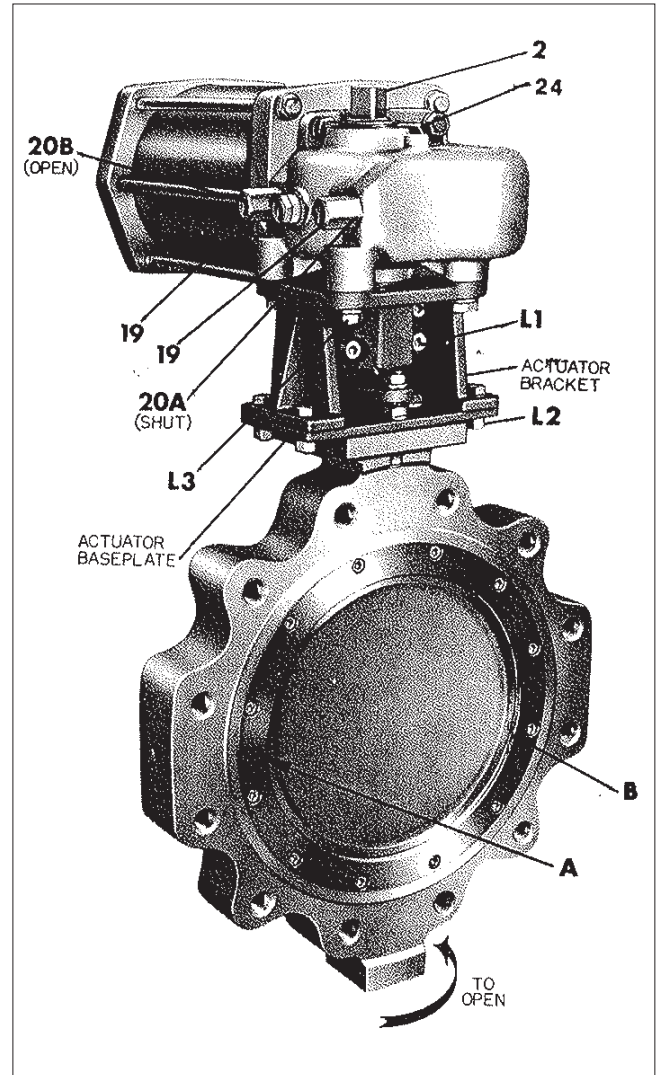

Figure 6
- (a) Disc travel on a *Wafer-Sphere* valve with a Type ST or ST-MS pneumatic actuator is controlled by a closed ("shut") travel stop set screw (20A) and by an open travel stop set screw (20B) in the actuator. See Fig. 6.
- (b) Remove acorn nuts (19) protecting the closed ("shut") and open stop set screws (20A) and (20B), respectively. **NOTE:** Be sure O-rings remain in the acorn nuts.
- (f) Carefully turn the closed (shut) stop set screw (**20A in Fig. 6**) in, or clockwise, until increased resistance to further motion is felt. Turn the screw in an additional 1/8 turn. At this point, there will be a slight movement of the driver (2), and the pointer (24) will just begin to move, and the disc will come off the insert stop.
- (g) Cycle the valve open and back to closed several times. The pointer (24) should return to the same position each time.
- (h) Cycle the valve to the open position. If necessary, adjust the open stop set screw (20B) until the pointer (24) is approximately 90° from the closed (shut) position. This is full open.
- To properly set the disc in the closed position so that it just clears the insert stop, tighten the closed stop (**20A in Fig. 6**) approximately 1/2 turn beyond the point load on the screw is first felt.
To Change Actuator Quadrant or Linkage Installation (See **Fig. 6**).